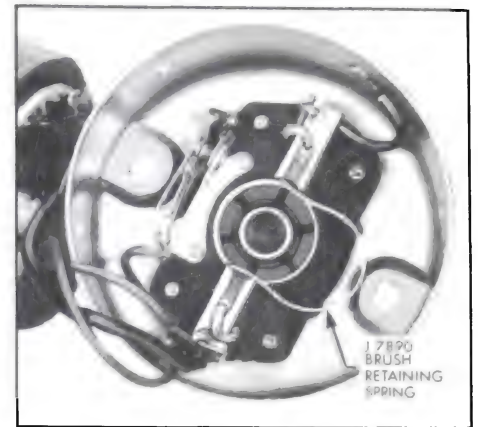

Figure 10-119—Installing Brush Retaining Spring
6. Pull the armature out of the case and install Brush Retaining Spring J-7890 as shown in Figure 10-119.